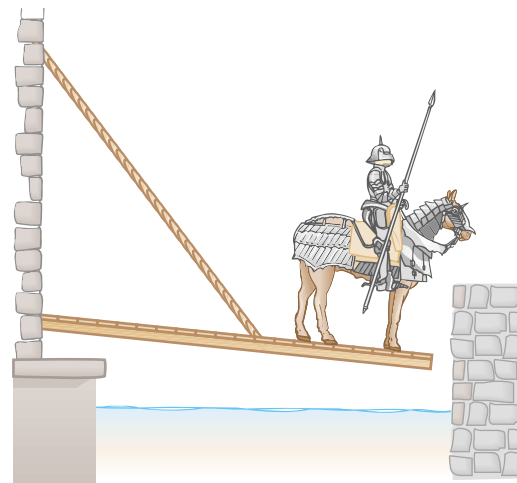

Figure P12.20 Problems 20 and 21.
20. Sir Lost-a-Lot dons his armor and sets out from the castle on his trusty steed in his quest to improve communication between damsels and dragons (Fig. P12.20). Unfortunately his squire lowered the drawbridge too far and finally stopped it 20.0° below the horizontal. Lost-a-Lot and his horse stop when their combined center of mass is 1.00 m from the end of the bridge. The uniform bridge is 8.00 m long and has mass 2 000 kg. The lift cable is attached to the bridge 5.00 m from the hinge at the castle end, and to a point on the castle wall 12.0 m above the bridge. Lost-a-Lot's mass combined with his armor and steed is 1 000 kg. Determine (a) the tension in the cable and the (b) horizontal and (c) vertical force components acting on the bridge at the hinge.
21. **Review problem.** In the situation described in Problem 20 and illustrated in Figure P12.20, the lift cable suddenly breaks! The hinge between the castle wall and the bridge is frictionless, and the bridge swings freely until it is vertical. (a) Find the angular acceleration of the bridge once it starts to move. (b) Find the angular speed of the bridge when it strikes the vertical castle wall below the hinge. (c) Find the force exerted by the hinge on the bridge immediately after the cable breaks. (d) Find the force exerted by the hinge on the bridge immediately before it strikes the castle wall.